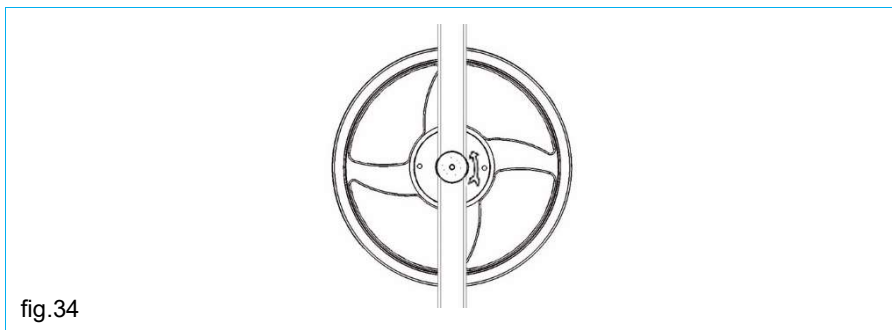

fig.34
- check that the protection devices (fuses, magnetothermic switches) are correctly sized, and that the phases are connected in the correct order: check that the fan rotates in the direction of the arrow shown on the driven pulley (see fig.34).